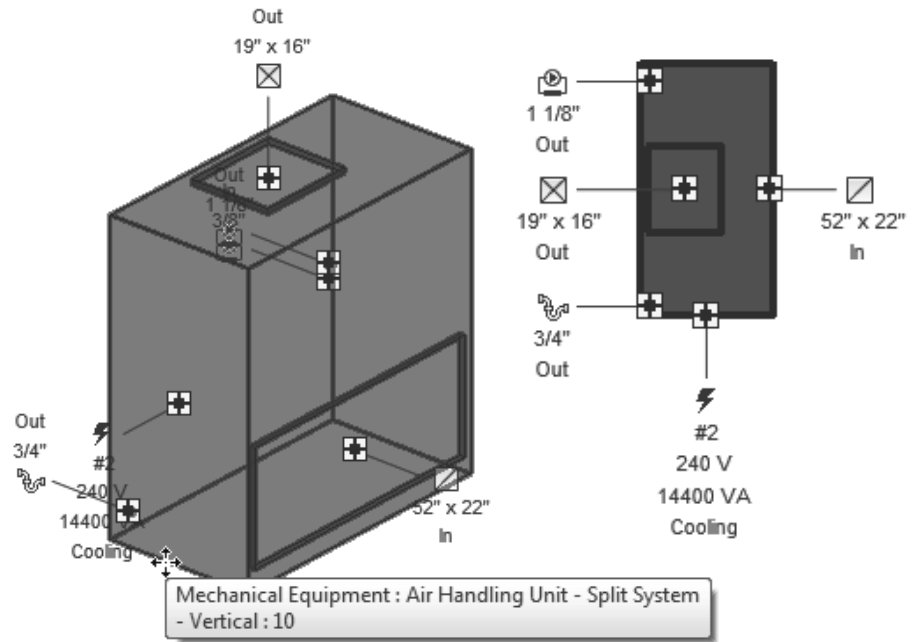

Figure 2–13
- Take time to get to know the components that come with the Autodesk Revit software. Their most critical content are the connectors, as you see in for a piece of mechanical equipment in Figure 2–13.